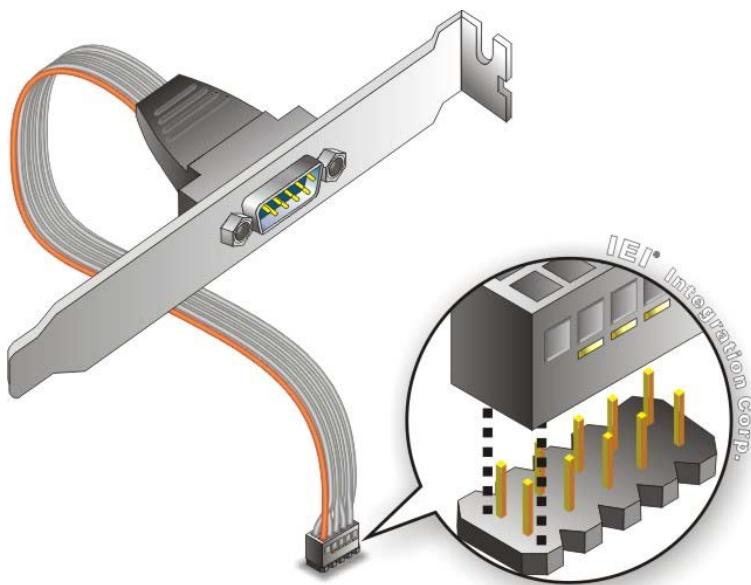

Figure 4-23: RS-232 Cable Installation
**Step 3: Insert the cable connectors.** Once the cable connector is properly aligned with the serial port connector on the WAFER-KBN-i1, connect the cable connector to the on-board connector. See **Figure 4-23**